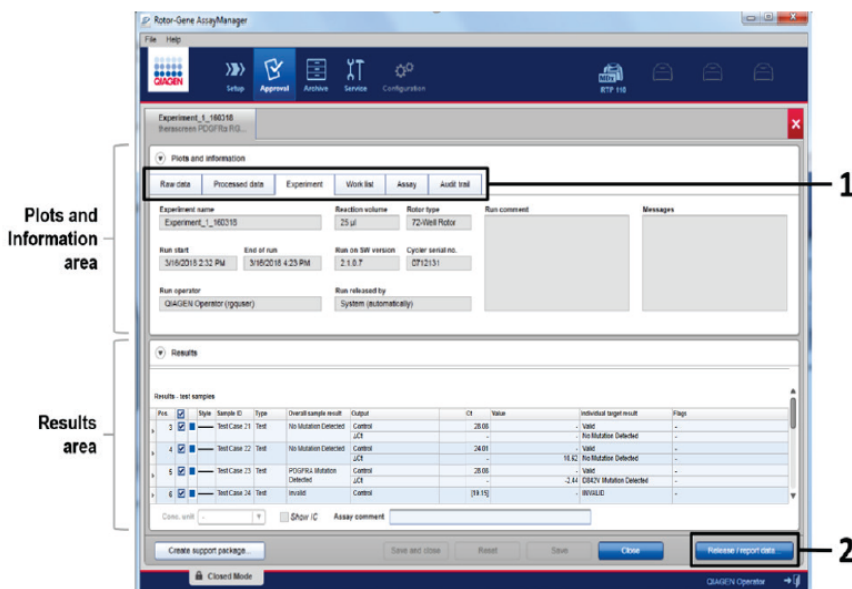

Figure 13. Example of assay results main windows. 1 – Experiment tab in the Plots and information. 2 – Release / report data button.
Raw Data, Processed data, Experiment information, Assay, and Audit trail information can be found in the Plots and information section (1). Assay results can be found in the Results section (Figure 13).